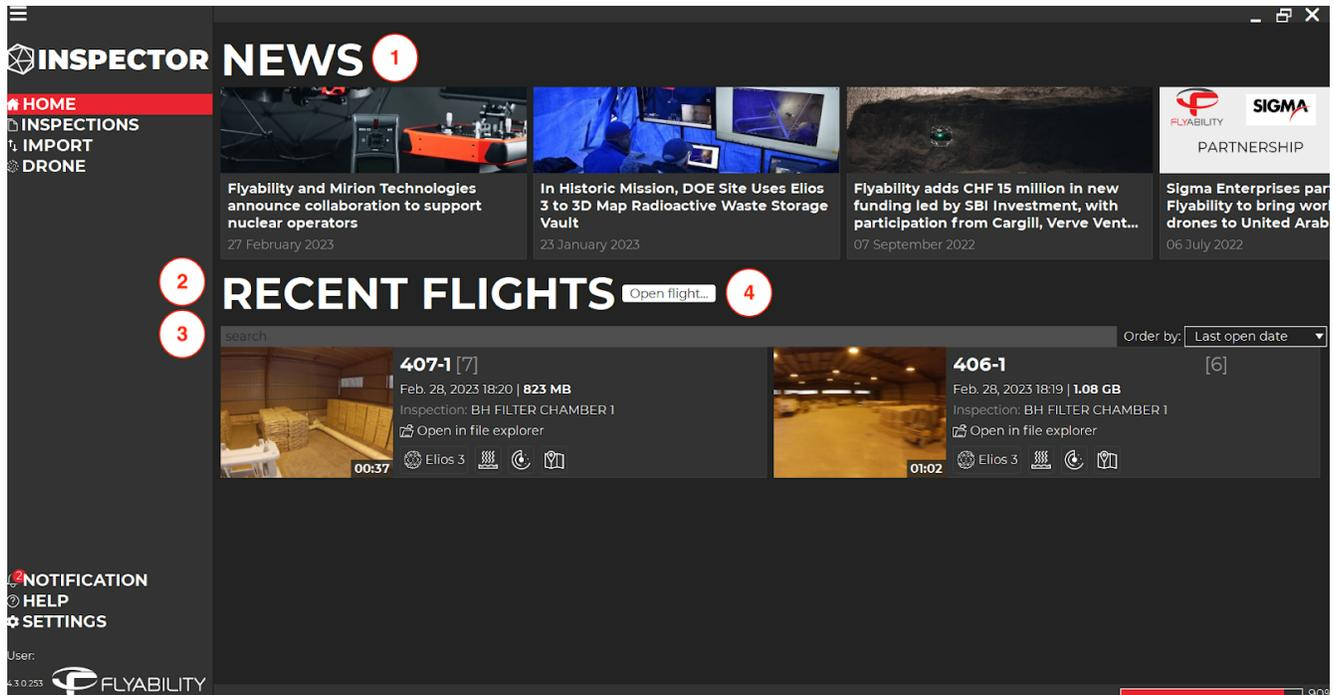

Figure 3: Inspector 4 Home Screen
This section will display recent updates and information concerning our products and software, as shown in figure 3 as (1).
This is a list of projects which have been opened or imported on your computer. Flights can be sorted according to: last open date, flight date, or flight name, as shown in figure 3 as (2).
This search bar can be used to quickly search for a specific flight, as shown in figure 3 as (3).
If the flight you are looking for is not shown in the list, then you can use this button to browse for it on your computer, as shown in figure 3 as (4).